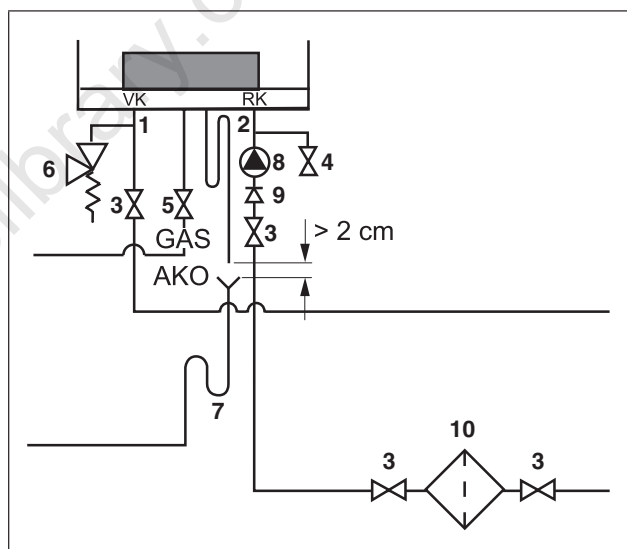

fig. 14 Connecting the boiler flow and return
To prevent contamination in the heating system we recommend you to integrate a dirt filter (fig. 14, **item 10**) in the return pipe, near the boiler. In an old system it is a requirement to install a dirt filter.
- Connect the flow pipe with a flat rubber seal installed to the CHF (CH boiler flow) connection (fig. 14, **item 1**) making sure it is not under stress. Use a flow pipe with a minimum diameter of 1½".
- Connect the return pipe with a flat rubber seal installed to the CHR (CH boiler return) connection (fig. 14, **item 2**) making sure it is not under stress. Use a return pipe with a minimum diameter of 1½".
- Install a isolating valve for maintenance and repair purposes in both the boiler flow and return circuits (fig. 14, **item 3**). Use isolating valves with a minimum diameter of 1½".
- Connect a drain cock in the return circuit (fig. 14, **item 4**).